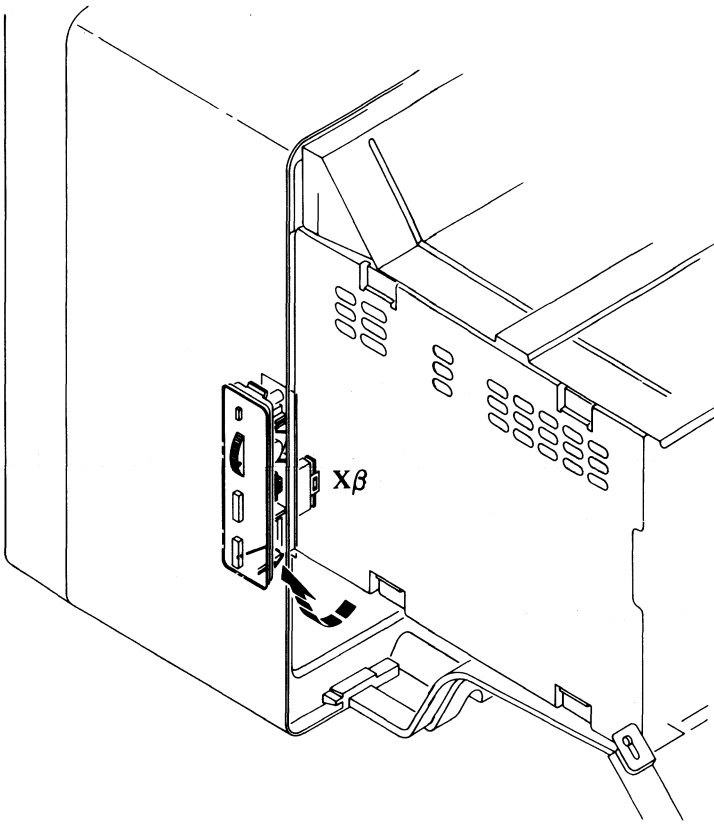

Figure 5-43. Releasing the 5379 Display Controls Card Clip
5. Reach into the power supply unit opening as shown below to release the fastening clip at the lower end of the controls card, (it may be necessary to use a screwdriver as a lever to release the clip) and push the assembly outward from the main cover. See Figure 5-43 on page 5-68.